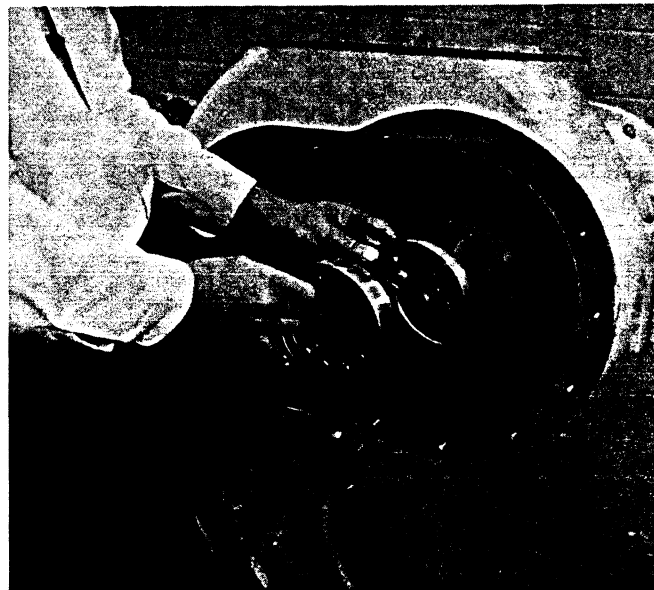

Figure 20
15. Using the proper tools, remove the two front roller bearing internal retaining rings from the rotor housing. Refer to Figure 19. Remove the outer race of the drive shaft roller bearing, the spacer ring, refer to Figure 20, and the outer races of the two rotor front roller bearings from the rotor housing, using a bearing puller, if necessary.